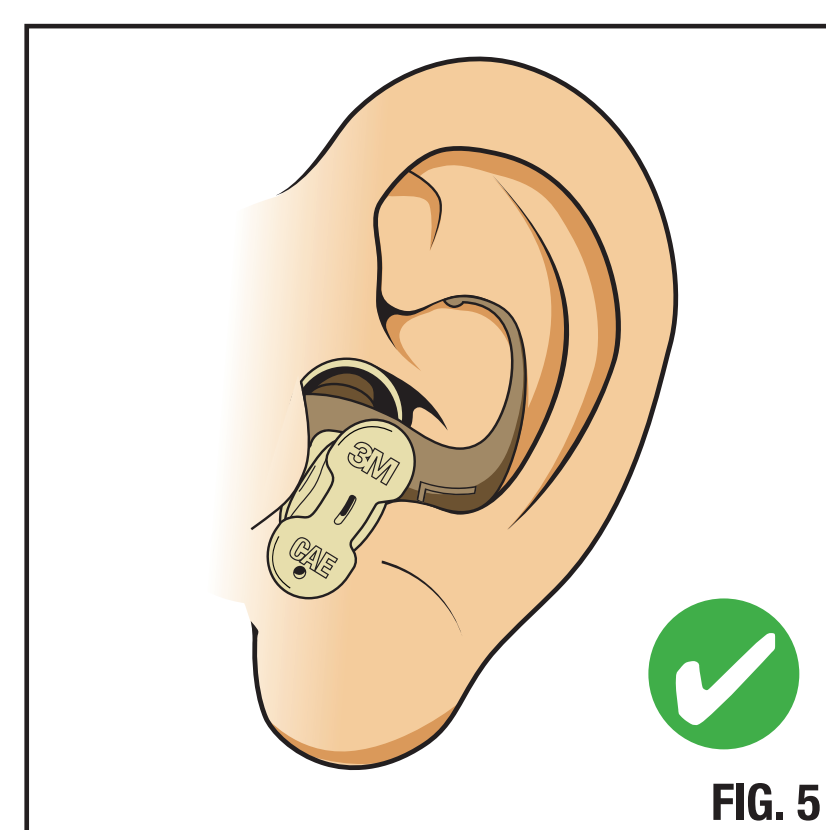

FIG. 5
**Step 4.** If properly inserted, the retainer should be fully secured in the concha and not protruding out of the ear at any point. (*see Fig. 5*)